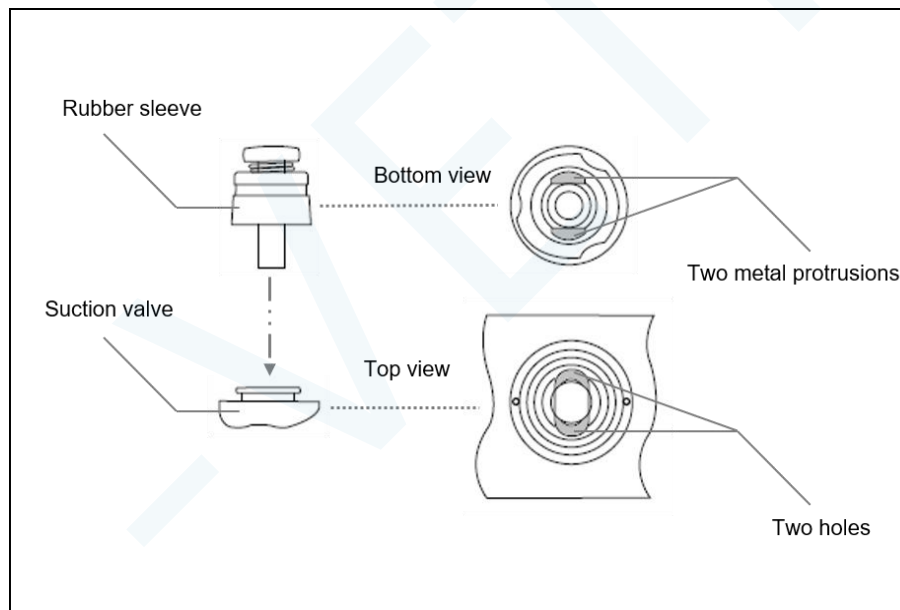

Figure 3.12
2. Install the suction button on the suction port of the endoscope (Figs. 3.12 and 3.13), make sure the button is properly installed, the rubber sleeve is not raised, and that the button cannot rotate.